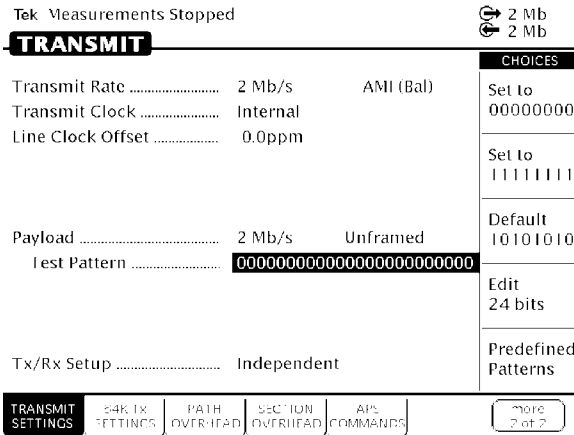

Figure 3 35: Editing the User Word Byte
1. Set the contents of the User Word Byte(s) as follows (see Figure 3 35):